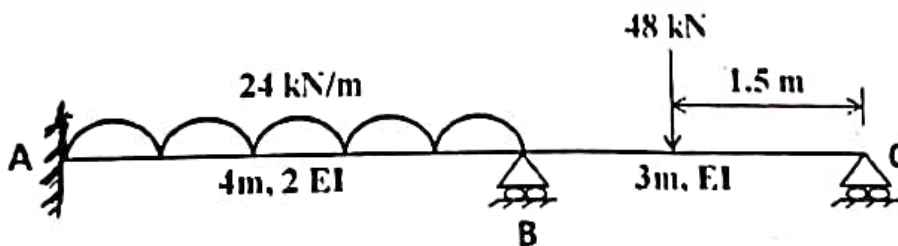

Fig. 9
8. Please analyze the two span continuous beams shown in Fig. 9 using flexibility method of analysis. Draw shear force and bending moment diagrams. Also sketch the deflected shape. (7)